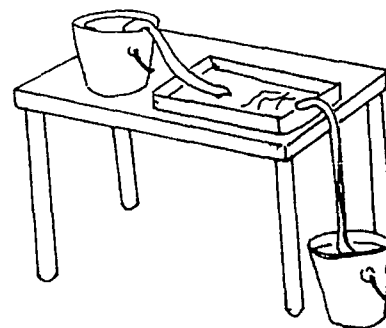

Figure 3.
5. Use the tubing as a source of stream water and removal (Figure 3).